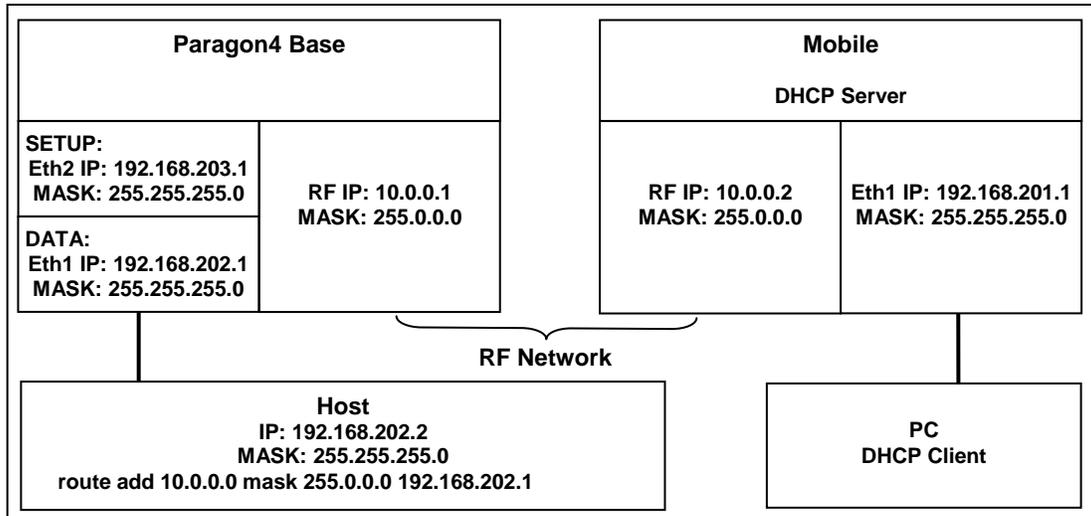

Figure 11 - IP Network Settings in Router Mode (with Host)
Figure 11 below illustrates Paragon4 base station settings. In Setup (Advanced) → LAN (IP), set ETH1 and ETH2 IP addresses and netmask of both Base and Mobile(s).